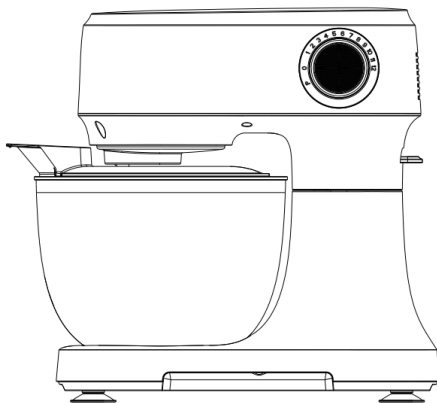

Fig.1
4. Place the bowl in position. First place the bowl on the base, then turn the bowl clockwise until it locks into position (see Fig.1).